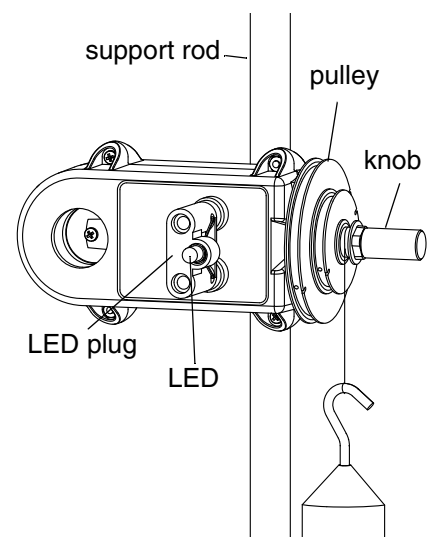

Figure 1a: Mounting the generator on a support rod
2. Insert the LED plug into the jacks on the generator (Figure 1a).